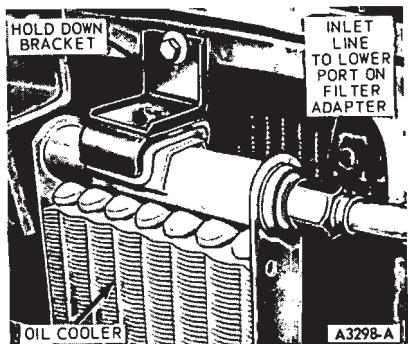

FIG. 22—Engine Oil Cooler Installed—302 BOSS Engine
2. Remove the hold-down bracket from on top of the cooler (Fig. 22).